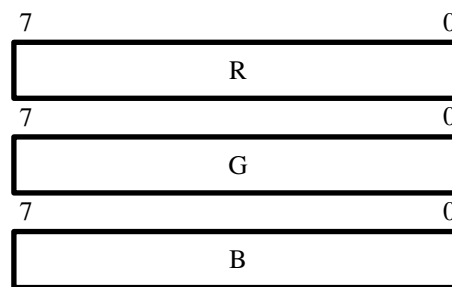

Figure 18. Bayer Pattern RGB Color Space.
- Bayer Pattern — This is a special case of the RGB color space where each pixel has a value for only one of the three colors. The pattern of the colors in the frame is shown in 17. Figure 18 shows the format of the bayer pattern data. This mode is defined as 8 bits per symbol and one symbol per beat.